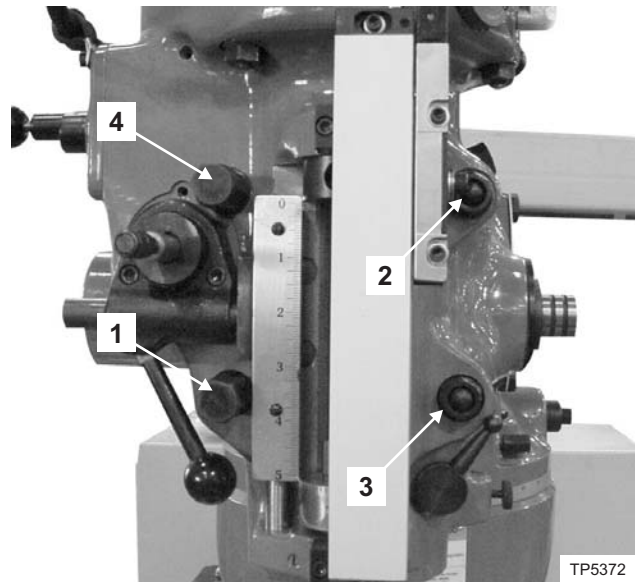

Figure 2.22 - Locknut Torque Sequence
5. Tighten the four locknuts in the sequence shown in Figure 2.22: